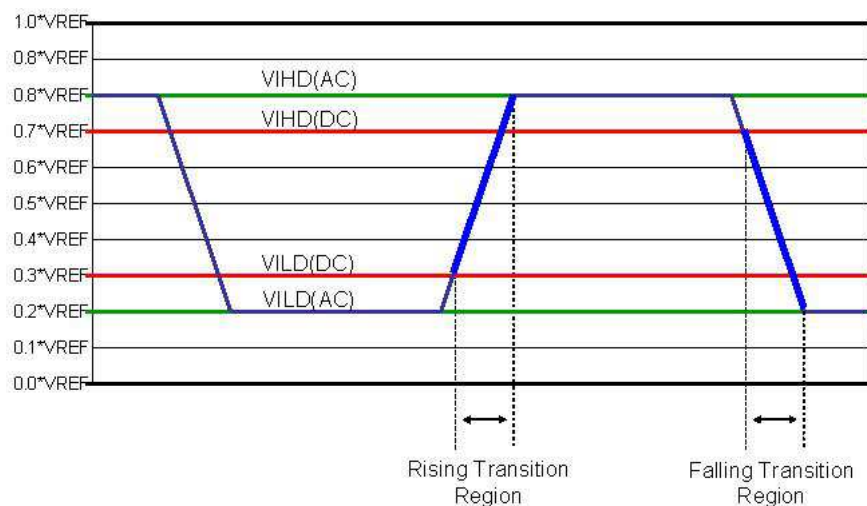

Figure 2. Low Speed (Ls) I/O Input Thresholds
- (1) VILD(AC) min applies to undershoot.
- (2) VIHD(AC) max applies to overshoot.
- (3) Signal group 1 output slew rate for rising edge is measured between VILD(DC) to VIHD(AC).
- (4) Signal group 1 output slew rate for falling edge is measured between VIHD(DC) to VILD(AC).
- (5) Signal group 1: See Figure 2.
- (6) Signal groups 2 and 3 output slew rate for rising edge is measured between VILD(AC) to VIHD(AC).